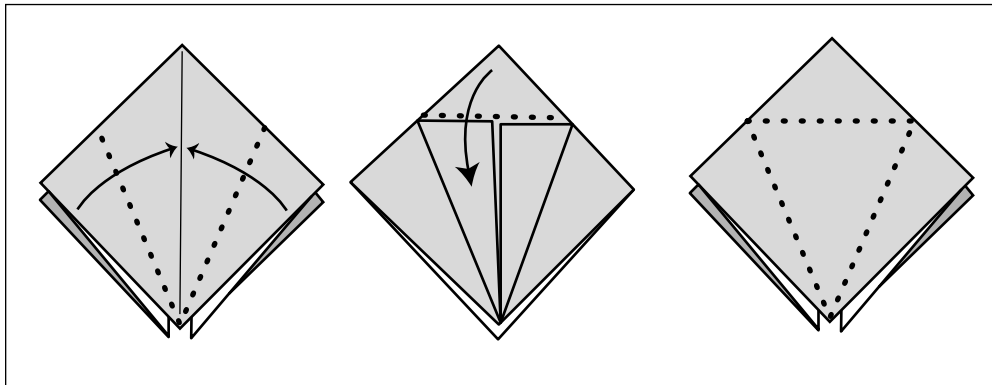

Figure 9-15:
4. Fold the two lower edges into the middle, make creases, and fold the top of the square down to make a crease across the top; then open out the creases (refer to Figure 9-15).